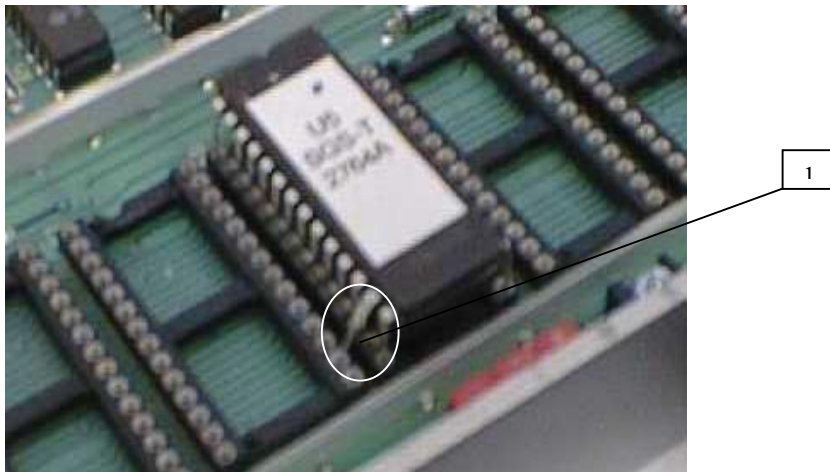

Fig.14 Bad Installation
- (6) Check datachip for bent pins.
If the datachip is placed badly (Fig.14 No.1), remove chip with chip remover and restart with task (3)